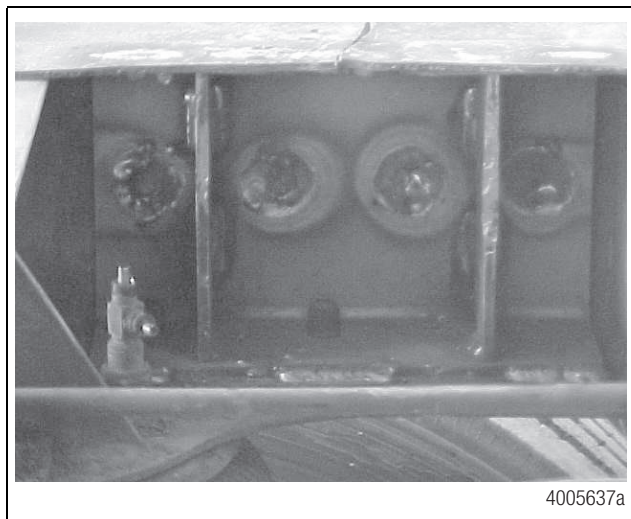

**Figure 73**
13. With a straight edge, check to ensure the three front cross members are aligned. Refer to Figure 73.